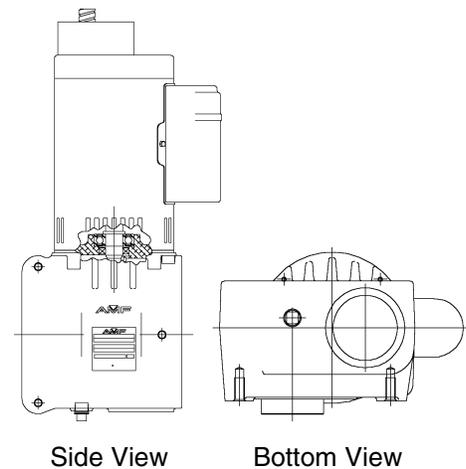

Figure 7, Capacitor Orientation
13. Orient the motor's capacitor so that it extends out over the front of the gearbox (see Figure 7), and install the four long thru-bolts. Tighten the bolts incrementally in an alternating pattern to a maximum of 20 in-lbs. to prevent the rotor from binding.